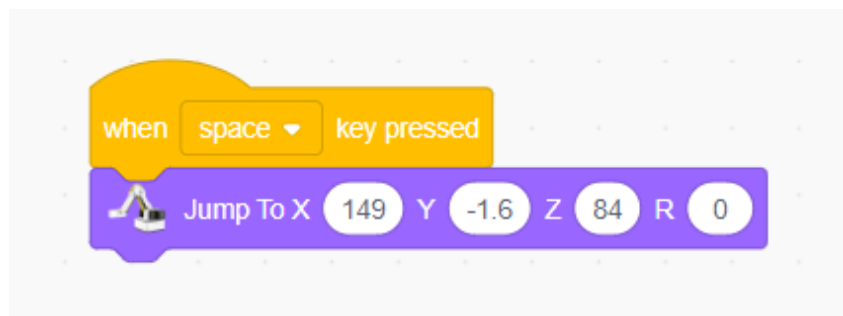

Figure 4.13 Initializing the position of the robotic arms
Step 2: Initialize the position of the robotic arm. Control the robotic arm to a proper position, and place a stationery card within the photographing scope, as shown Figure 4.13.